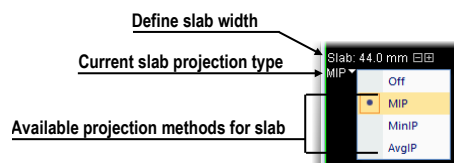

Figure 290 – Controls for defining slab in the current view
4. Select the method for the slab pixel values calculation (see Figure 290).